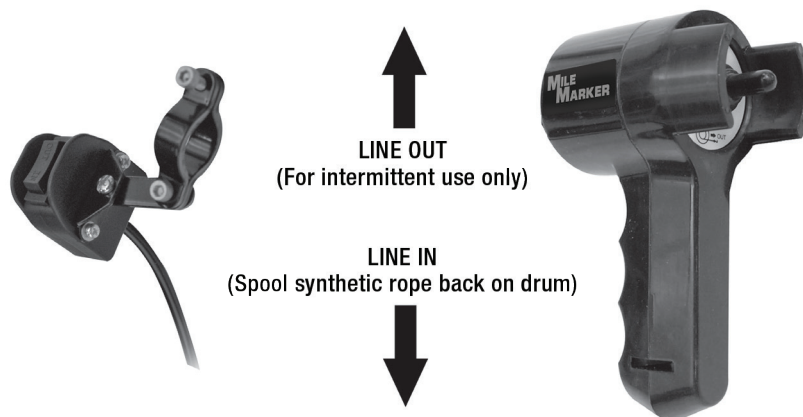

Fig.3-2
2. Toggle the joystick "down" to retrieve line. When using the handlebar remote, you can also toggle the "IN" button for the same retrieval function (Fig. 3-2). The steel cable/synthetic rope will spool in on drum.
3. Toggle the joystick "up" to power OUT steel cable/synthetic rope. When using the handlebar remote, you can also toggle the "OUT" button for the same power out function (Fig. 3-2). The steel cable/synthetic rope will spool out off of drum.